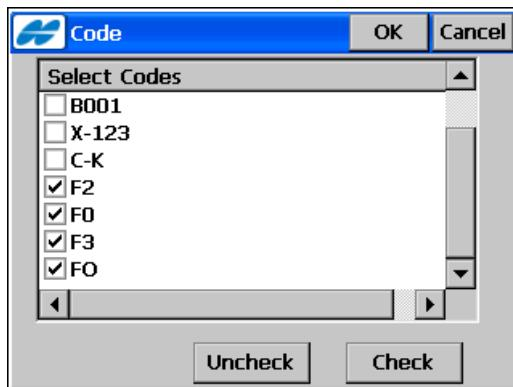

Figure 4-7. Select Code
- **Select** – opens the **Code** screen (Figure 4-7 on page 4-7).
The **Code** screen (Figure 4-7) contains a list of available codes. All codes that have been check marked are imported.